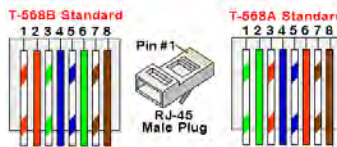

Figure 31: Ethernet connector - pin layout
CAT6 cables have eight wires (four twisted pairs), as shown in the pin layout of the Ethernet connector in *Figure 31*. Wire colors may differ from one cable to another. You can use either wiring standard, as long as both sides of the cable have the same pin-out
- Insert the eight wires into an RJ45 connector, as shown in *Figure 31*.